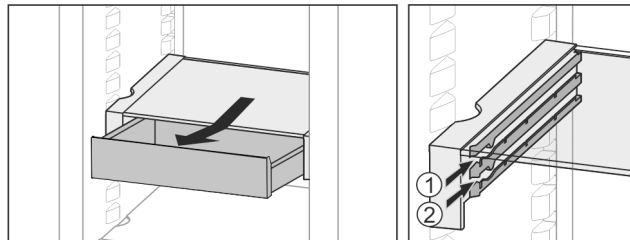

Fig. 25
- Slide back at the height you want Fig. 25 (1) or Fig. 25 (2).